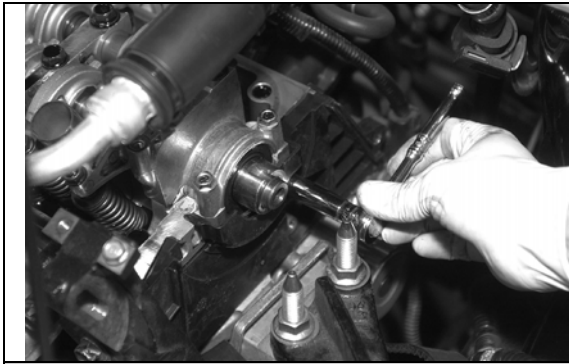

Fig. 25
- gg) Remove the other half of the plastic cam gear cover from the cylinder head. (Fig. 25)